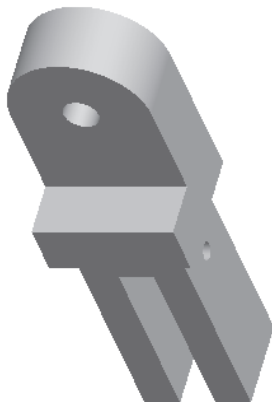

Figure 4-72 Completed model for Tutorial 1
6. Choose the **Build feature** button from the **Extrude** dashboard. Turn the model display to shaded by choosing the **Shading** button from the **Model Display** toolbar. The trimetric view of the model is shown in Figure 4-72.